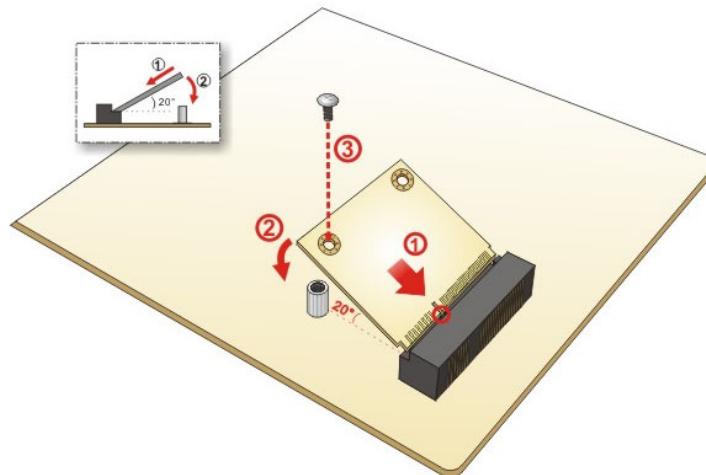

Figure 6-6: PCIe Mini Card Installation
- Step 3:** Line up the notch on the PCIe Mini card with the notch on the connector. Slide the PCIe Mini card into the socket at an angle of about 20° (**Figure 6-6**).
- Step 4:** Press the other end of the PCIe Mini card down and secure the card with the previously removed retention screw (**Figure 6-6**).